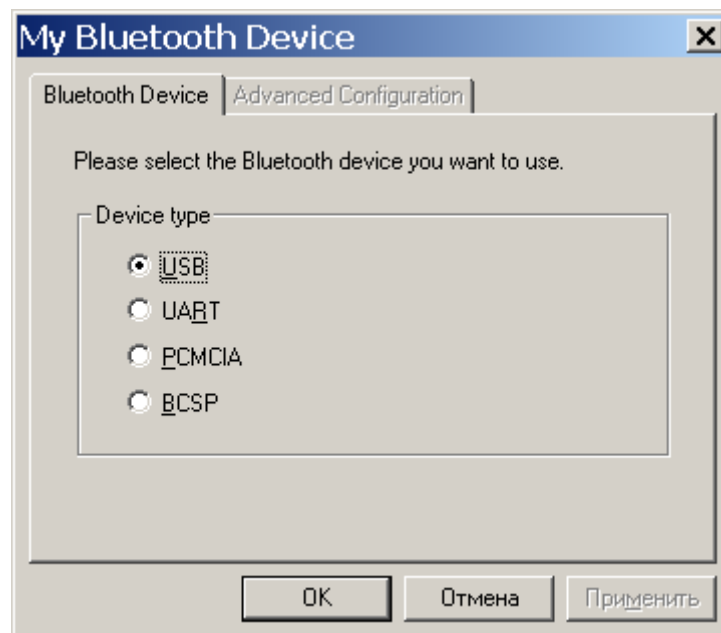

Figure 4 – “Bluetooth Device” tab setup
- select **Tools->My Bluetooth device**. Set the **USB** radio button in the **Bluetooth Device** tab (Figure 4);